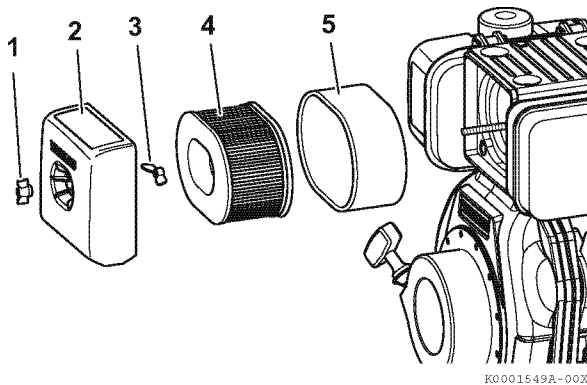

Figure 43
1. Remove the wing nut (1, **Figure 43**).
2. Remove the air cleaner cover (2, **Figure 43**).
3. Remove the wing nut (3, **Figure 43**).
4. Remove the air cleaner element (4, **Figure 43**) and outer foam element (5, **Figure 43**).
8. Clean the inside of the air cleaner cover (2, **Figure 43**).
9. Reinstall the air cleaner element (4, **Figure 43**) into the air cleaner housing.
10. Slide the outer foam element (5, **Figure 43**) over the air cleaner element (4, **Figure 43**).
11. Reinstall the wing nut (3, **Figure 43**) and hand-tighten. Over-tightening the wing nut will damage the air cleaner assembly.
12. Reinstall the air cleaner cover (2, **Figure 43**).
13. Reinstall the wing nut (1, **Figure 43**) and hand-tighten. Over-tightening the wing nut will damage the air cleaner assembly.